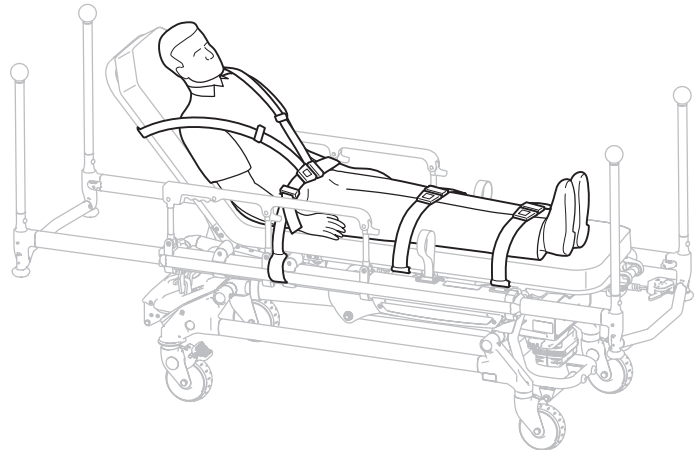

Figure 14 - Safety Restraints
2. Buckle the restraints across the patient's chest/shoulders, waist and legs (Figure 14).